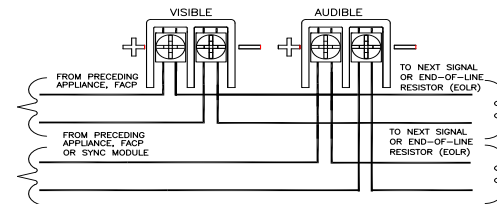

Figure 1 LED Strobe Wiring
- Connect speaker wires to common and positive of terminal block and select the power tap terminal for 1/8W, 1/4W, 1/2W, 1W or 2W; 25V or 70V as required (see Figures 1, 2, 3,5 and Table 4). Each doubling of rated Watts increases sound output by 3 dBA.